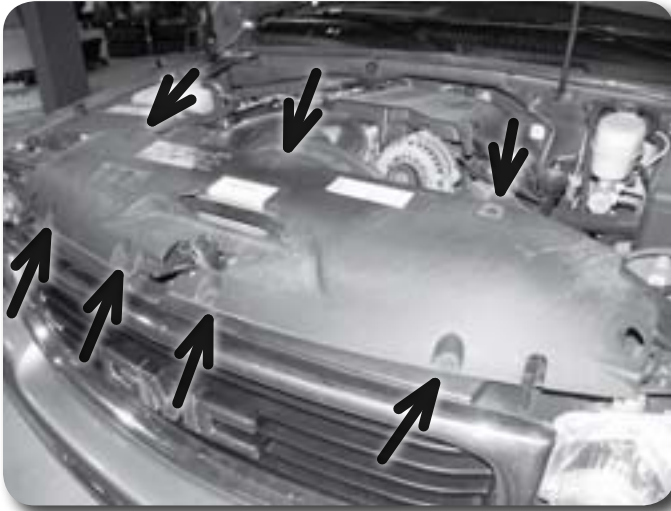

Figure 1
2. Remove the 7 plastic clips that mount the upper plastic core support cover to the core support **Figure 1**. Pull up on the center of the clip with a flat blade screw driver and then pull the clip out of the hole. Remove the cover from the vehicle. Retain clips and cover.